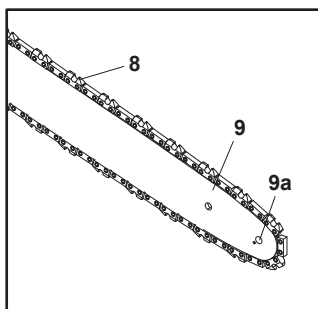

Fig. 4
6. The saw chain direction is as indicated by the arrow. Make sure the saw chain (8) is properly placed over the sprocket wheel (9a) of the guide bar (9) (Fig. 4).